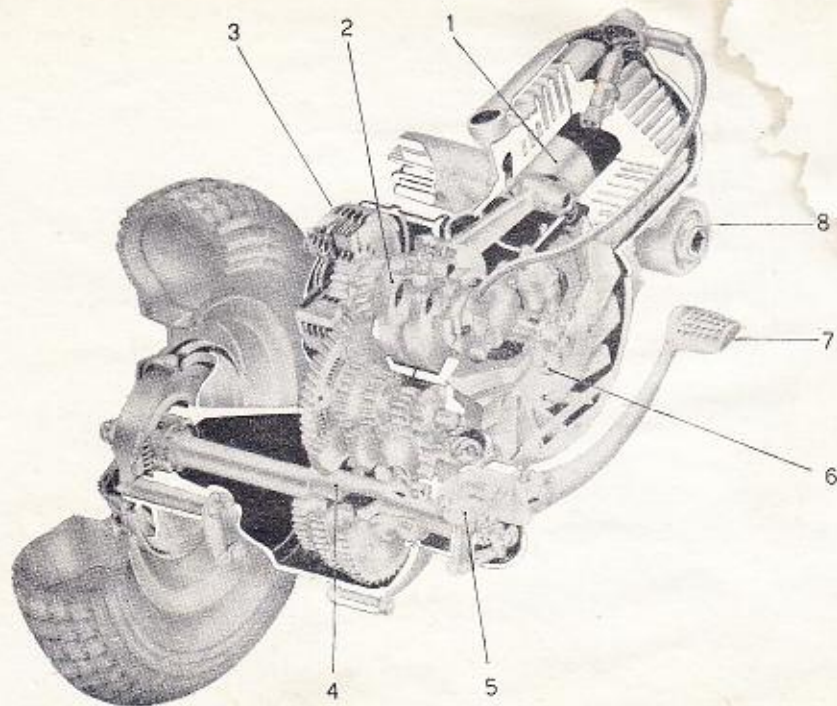

Fig. 5. Section of engine.
1. Fuel tank. 2. Fuel cock lever: (A) Reserve, (B) Open, (C) Closed. 3. Air cleaner. 4. Float. 5. Maximum jet. 6. Idling jet. 7. Throttle slide. 8. Idling adjuster. 9. Adjuster on throttle control cable. 10. To the cylinder.
**Transmission.** The engine (see Fig. 5) drives directly the rear wheel through clutch, cush drive and gear box.
Its adjustable twistgrip control is coupled with that of the clutch, on left hand side of handlebars (see Fig. 5).
**Starting** by means of kickstarter, right hand side of scooter (see Fig. 5).